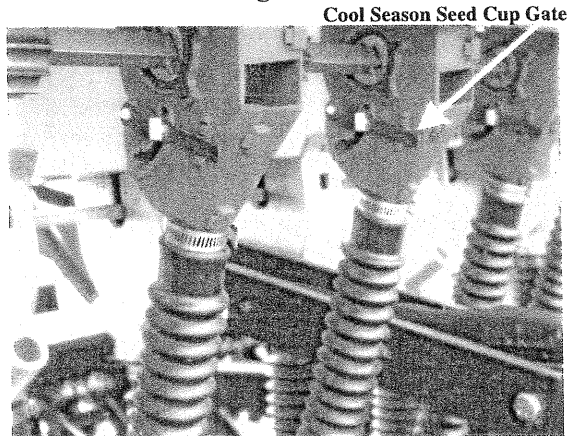

Figure 60-1
- 8) Drop the gates on the cool season seed cups to its lowest level. The lever is located on the left side of the seed cup as you face the back of the drill. **See Figure 60-1.**